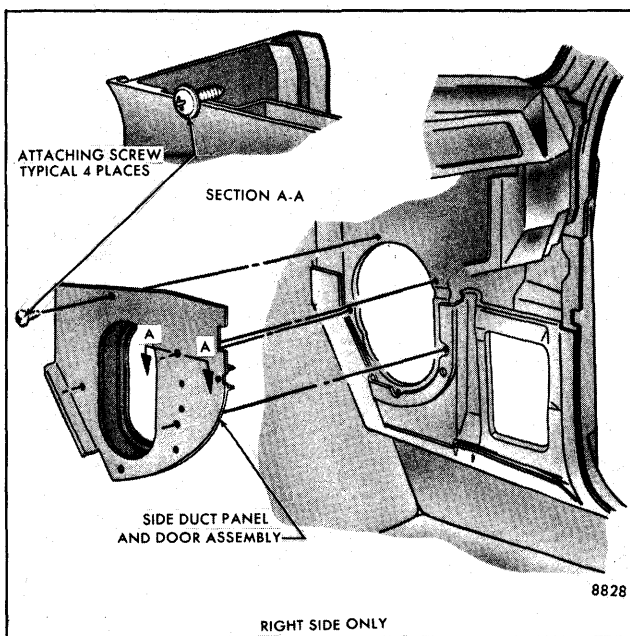

Fig. 4-5-Side Duct Panel and Door Assembly
3. Remove four (4) side duct panel to side shroud panel attaching screws (Fig. 4-5); then remove duct panel and door assembly.